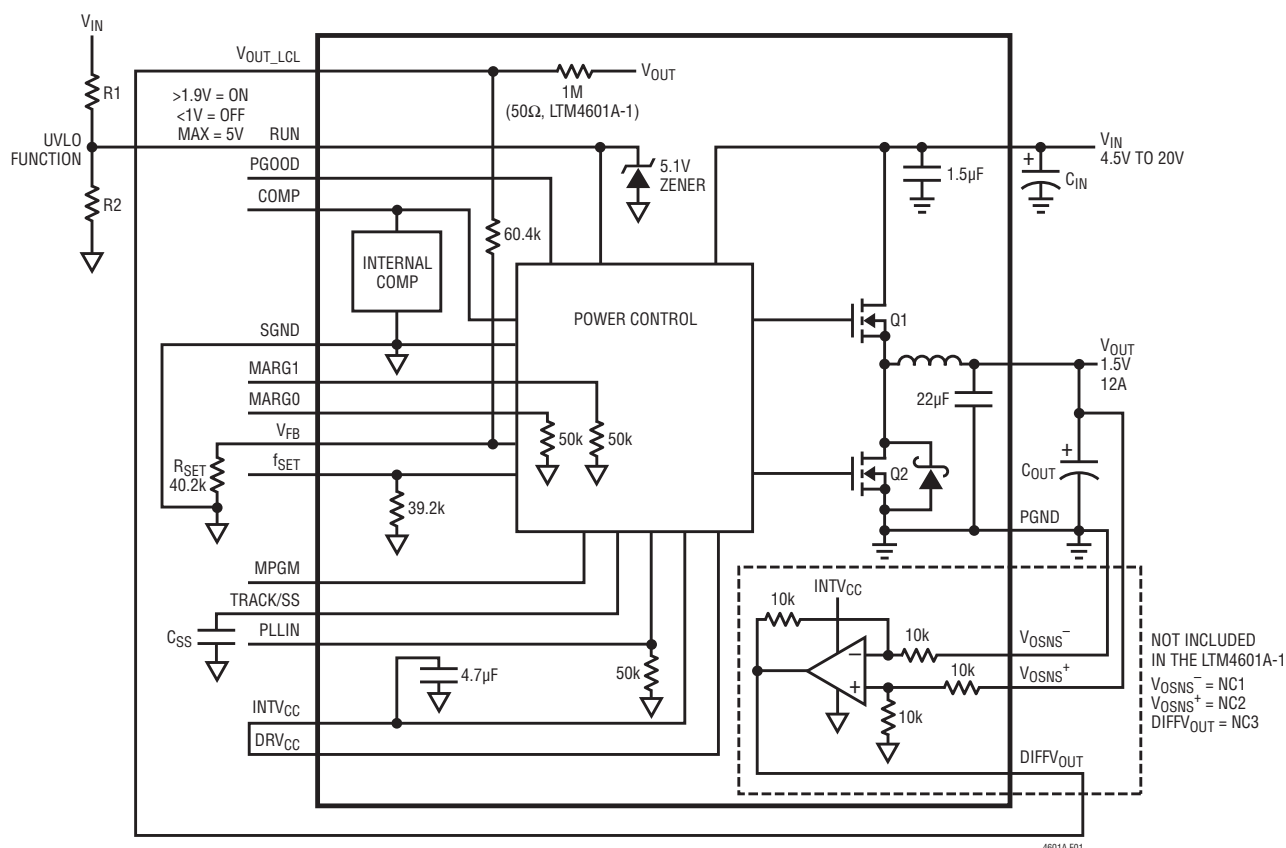

Figure 1. Simplified LTM4601A/LTM4601A-1 Block Diagram
**DECOUPLING REQUIREMENTS**  $T_A = 25^\circ\text{C}$ ,  $V_{IN} = 12\text{V}$ . Use Figure 1 configuration.
See Figure 1, Simplified Block Diagram.